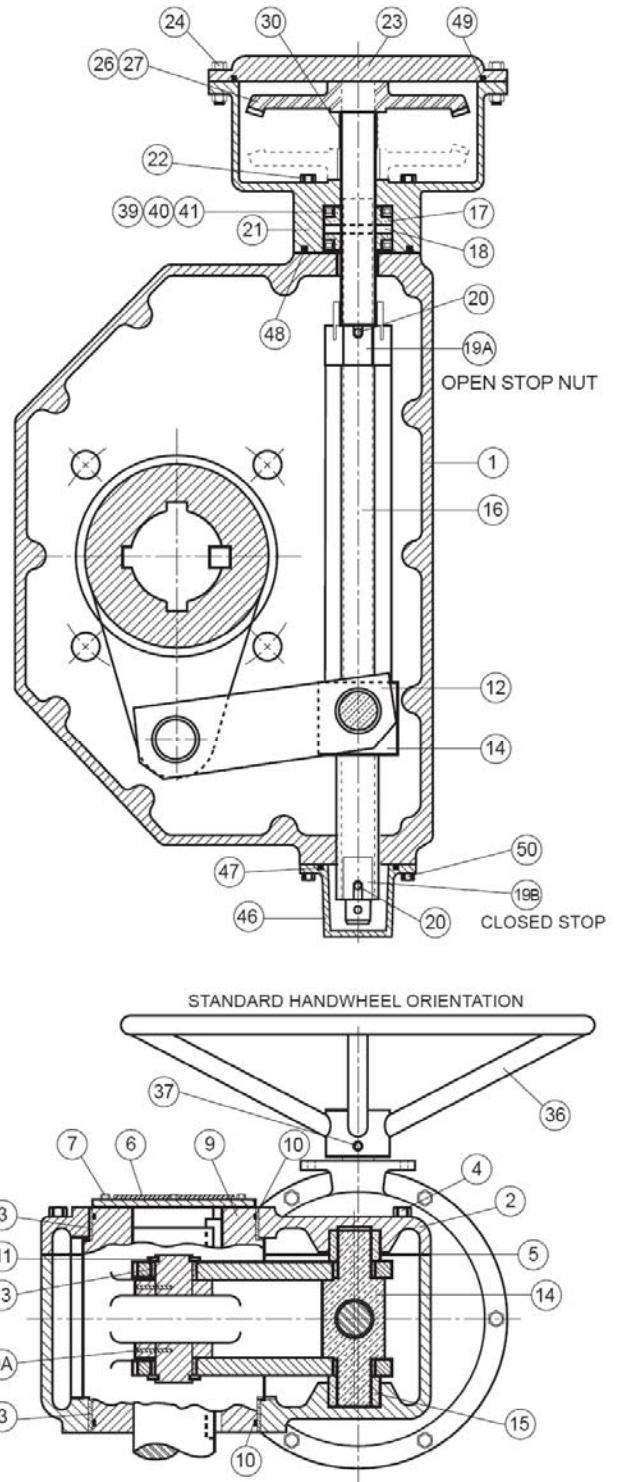

FIGURE 7. TRAVELING NUT ACTUATOR
A traveling nut actuator (Figure 7) has a threaded rod (16) that drives a threaded crosshead (14) from one end of the housing to another. The crosshead in turn drives a slotted lever (9) through 90 degrees of rotation. Traveling nut actuators provide slower rotation and greater torque multiplication at the ends of travel. A bevel gear mounted on the input side of the actuator provides additional torque.